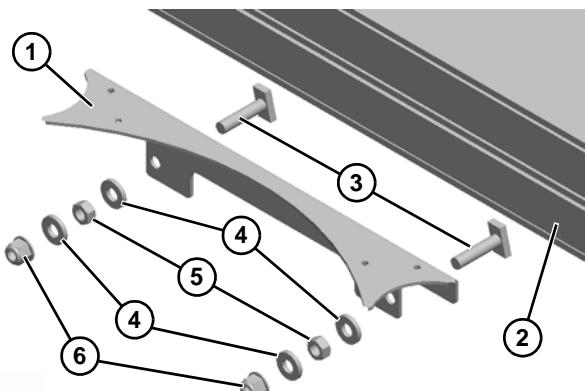

Figure 45
1. Install conveyor tie plate (**Figure 45, item 1**) to straight conveyor section (**Figure 45, item 2**) with two M8 x 35 mm studs (**Figure 45, item 3**), washers (**Figure 45, item 4**), and hex nuts (**Figure 45, item 5**).
2. Thread on hex nuts (**Figure 45, item 6**) a couple turns at this time.